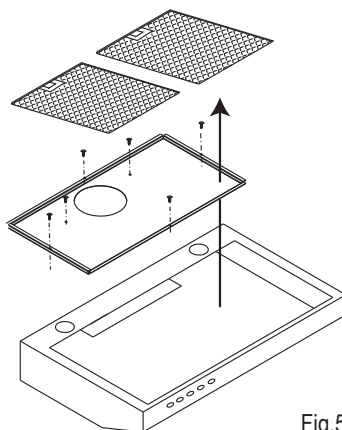

Fig.5
- (b) Remove the bottom panel by removing the 6 screws (figure 5).